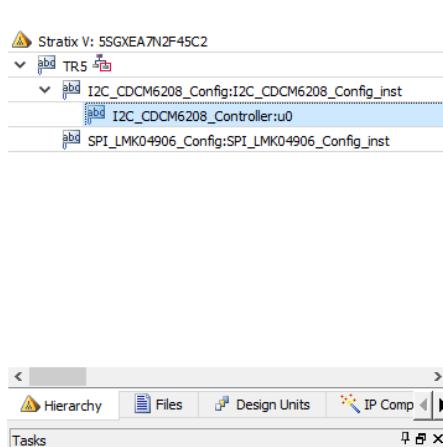
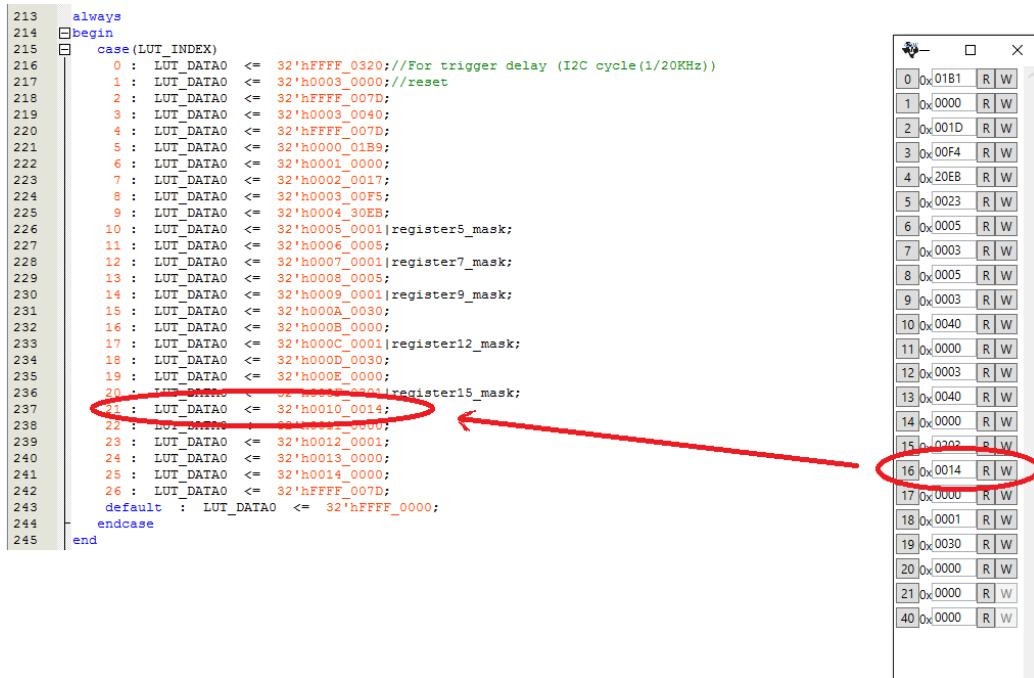

Figure 5-7 Sub-Module file "I2C_CDCM6208_Config.v"
Figure 5-8 Modify CDCM6208 Control IP Base on Register Table
- Open CDCM6208 control IP sub-module “I2C_CDCM6208_Config.v” as shown in **Figure 5-7**, refer to Register Table to modify all the sub-module corresponding register values (See **Figure 5-8**).